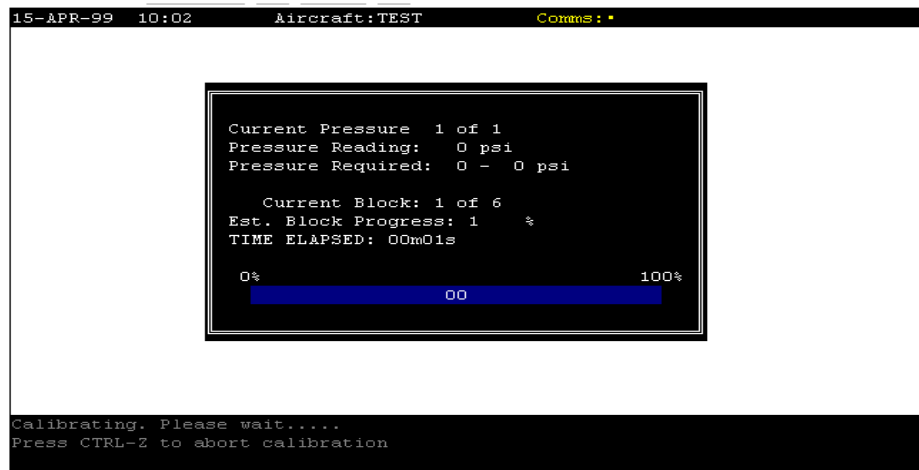

Figure 3.25 – 'Performing Calibration' screen.
- (a) The ANCU will automatically drive all Actuators in turn for periods of 2 to 3 seconds. The 'Performing Calibration' screen will be shown on the MT display (Ref. Figure 3.25).